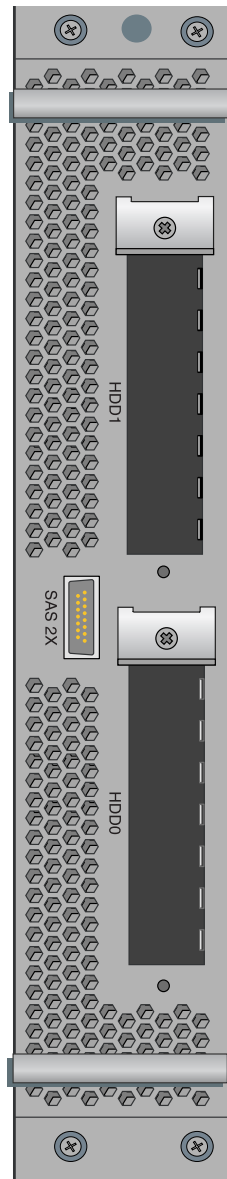

Figure 5-8 Location of Disk Drive Bays
The dual-disk drive riser card permits a blade to house two system disk drive bays as shown in Figure 5-8 on page 67. This section describes how to install or remove the drives. The blade supports RAID 1, RAID 0 and jbod disk drives.
1. Install a drive (pre-mounted on sled) into the dual disk drive riser blade (see Figure 5-8 on page 67) with the red button at the bottom.